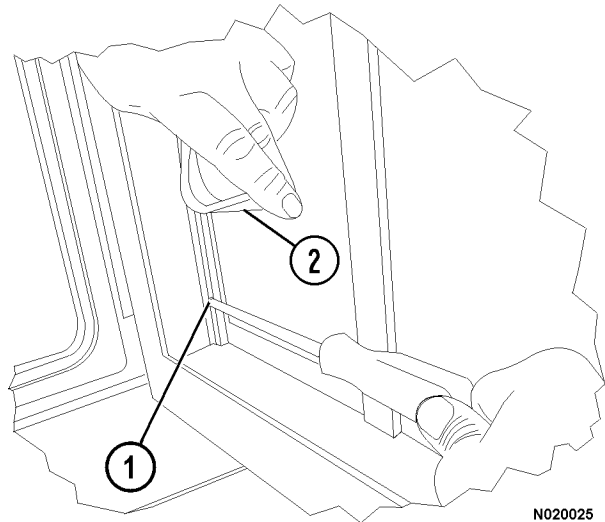

FIGURE 2-10.
*Remove the screw at the lower end of the window channels. It is necessary to pull the rubber felt insert (2, Figure 2-10) out of the channel in order to be able to remove the screws.*